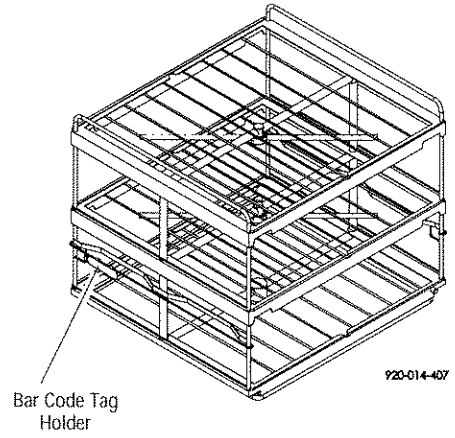

Figure 3-10. Three-Level Manifold Rack
- **Three-Level Manifold Rack** (see Figure 3-10) is designed to hold a general purpose rack or one or two mesh instrument trays on the bottom level, a general purpose rack or one or two Amsco Instrument Trays or two mesh Instrument Trays on the middle level, and one or two Amsco Instrument Trays or two mesh Instrument Trays on the upper level.
1) For Automatic Indexing, proper Bar Code Tag (according to items being processed) must be attached to basket. See Figure 3-22 on how to insert Bar Code Tag inside Bar Code Tag holder easily. See Figures 3-10 to 3-21 for Bar Code installation on each accessory.